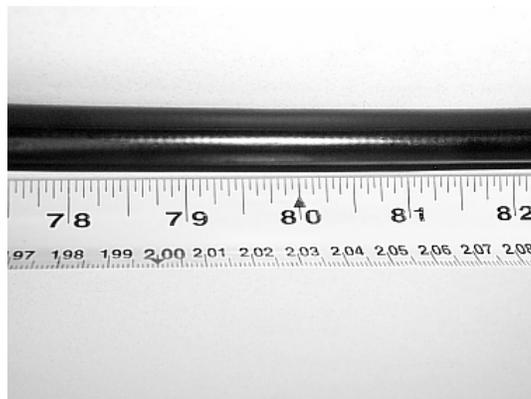

Figure 1 - Measure and mark the section of cable jacket to be removed.
4.1 Consult the closure instructions to determine the length of cable jacket that must be removed. Measure and mark the cable at the appropriate stripping length (Figure 1).